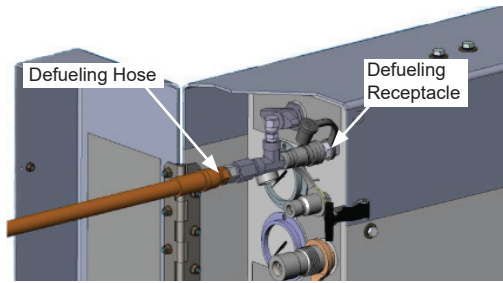

Figure 3: Defueling hose attached to defueling receptacle on supplying vehicle.
6. Connect the hose's defueling nozzle to the defueling receptacle of the supplying vehicle by pulling back on the quick connect collar on the hose and pushing it onto the vehicle's coupler (Figure 3).